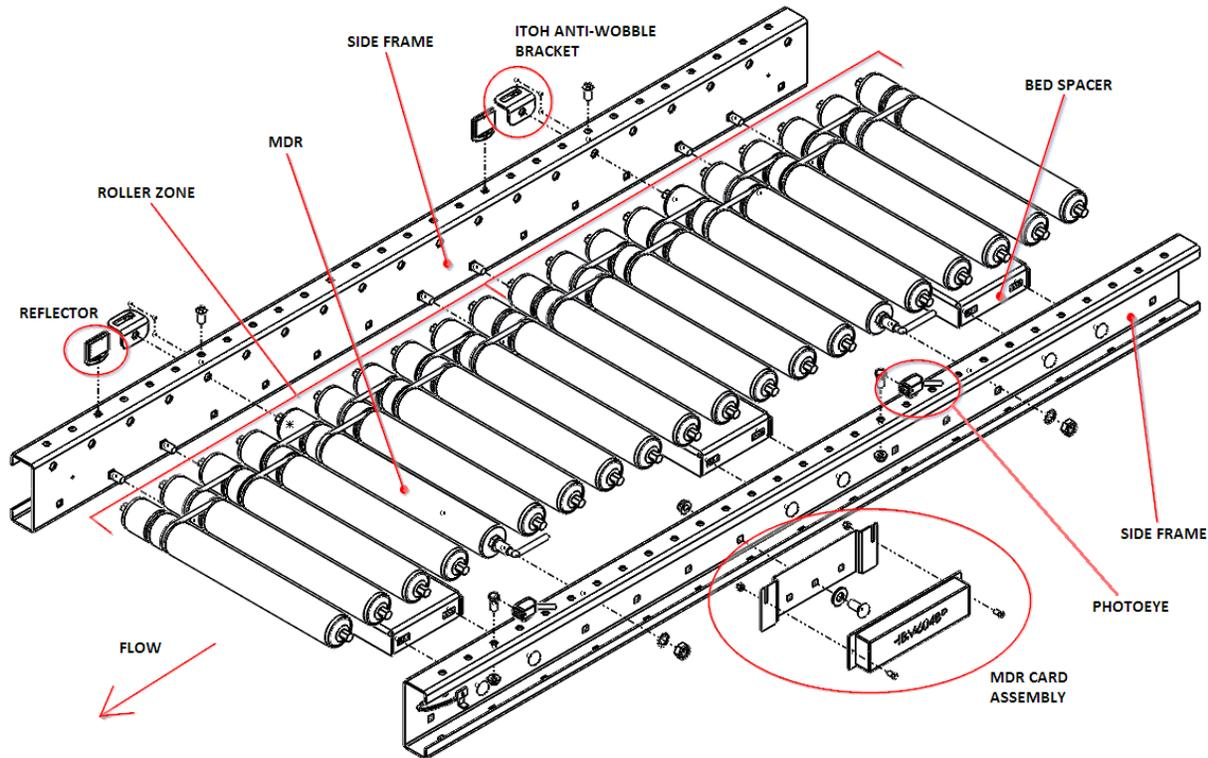

Figure 1: RZPDC General Arrangement Exploded View
The model shown in Figure 1 serves as a reference to become familiar with the components and terminology used in this manual. These terms will be used throughout the manual and are common among many of the other Bastian Solutions’ conveyor product lines.
The model in Figure 1 shows a 5’ RZPDC bed section. The RZPDC has 3” roller centers and has (2) 30” zones. Each zone is made up of (9) rollers and (1) MDR. The rollers and MDRs each have two grooves that allow them to be banded together with O-rings. Each zone requires one photo eye and one reflector. In the specific configuration shown, a dual zone card is being used to control both zones. While this is a standard configuration, another very common configuration is one zone per card.